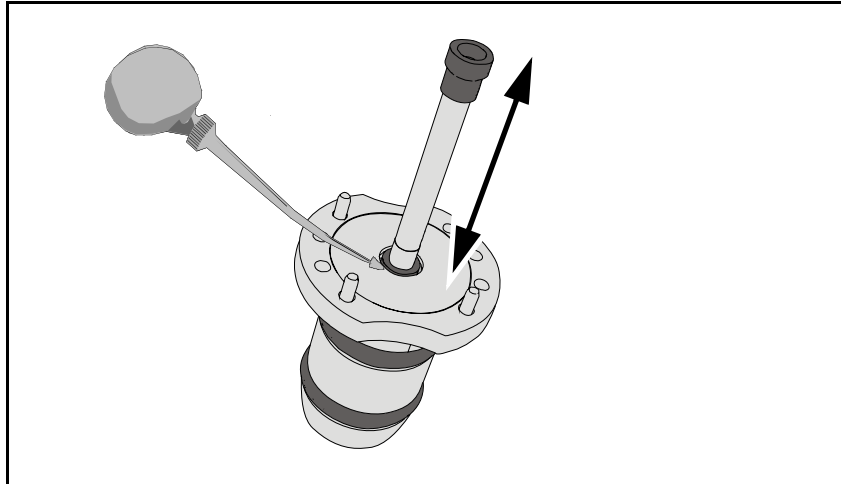

Figure 16-2. Spring loaded tools lubrication.
2. Lubricate metal colored spring-loaded tools with a drop of hydraulic oil, see Figure 16-2.